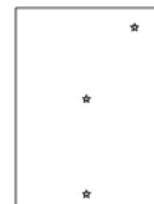

Figure 3.2. Positions for placing temperature sensors on a photovoltaic module based on IEC 61853-1.
- For temperature measurement in module chains, it is recommended to measure the temperature of at least three modules in the chain, using the three points indicated in Figure 3.2 within each module. It is advisable to measure a module near the end of the chain and two modules from the center of the chain. The use of the E-Temp, which enables wireless measurements, is highly recommended for this purpose.